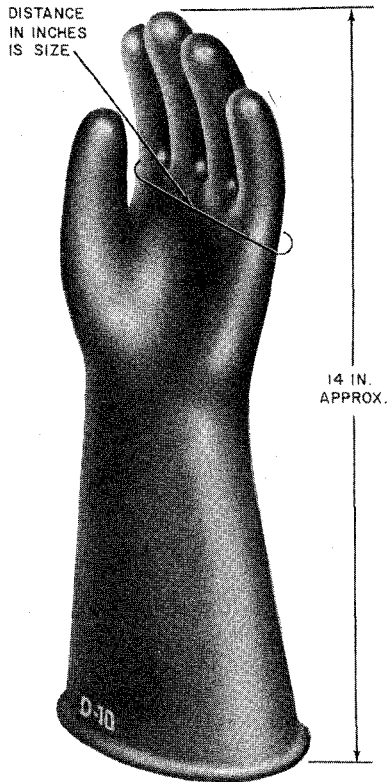

Fig. 1—E Insulating Glove
3.01 All insulating gloves are ♦the straight cuff♦ type. Sizes 9-1/2, 10, 11, and 12 are ♦in use♦ in types B, C, D, E, and F. A smaller glove, size 8, is now available in types D, E, and F. The size is equal to the approximate number of inches around the glove measured as shown in Fig. 1. The length of each glove, measured from the tip of the second finger to the outer edge of the gauntlet, is approximately 14 inches (Fig. 1).